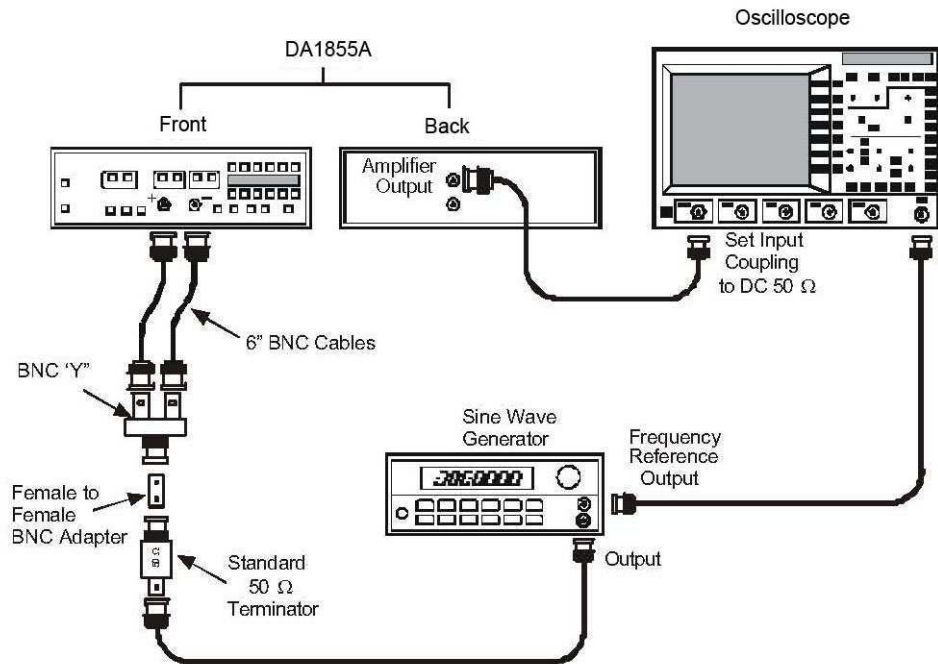

Figure 19, HF CMRR Check Setup
- r. Reconnect the **AMPLIFIER OUTPUT** cable to channel 1 of the oscilloscope. Refer to Figure 19.